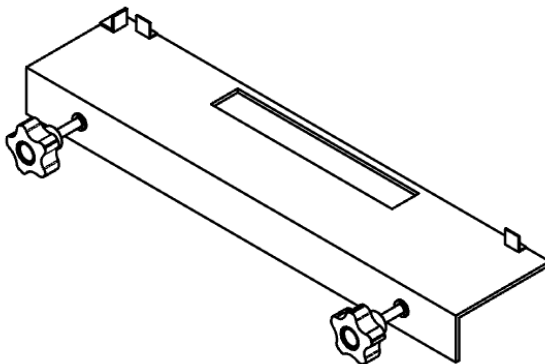

Figure 12. Manufacturing Step 9
9. Finally, install the threaded rivets using a rivet nut tool in the two holes drilled in step 3 and fasten the Rubber Padded Screw Clamps through the rivet nuts as shown in figure 12.